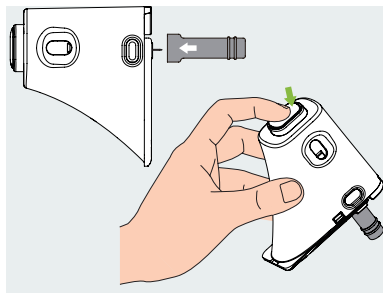

Figure 58
**6** If the needle remains in the inserter, place the protective sleeve back onto the needle hub. Firmly push the top of the inserter to eject the needle hub (Figure 58) and dispose of properly.